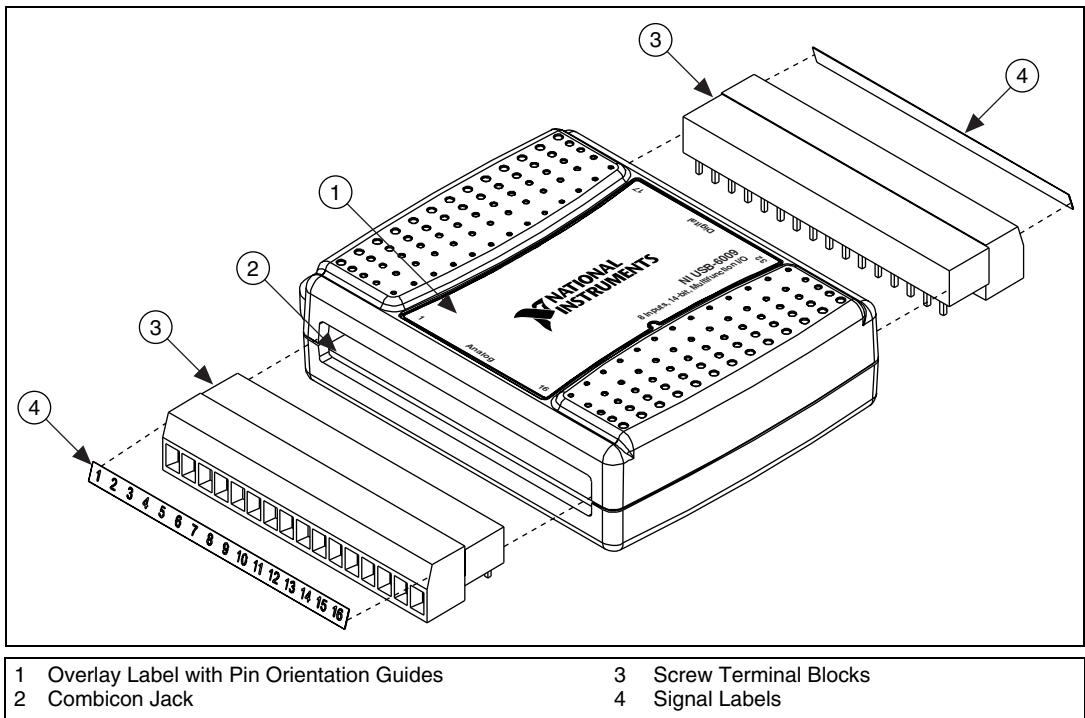

Figure 5. Signal Label Application Diagram
2. Refer to Table 1 and Figure 5 for label orientation and affix the provided signal labels to the screw terminal blocks. Until the signal labels are applied, you can insert the screw terminal blocks into either of the combicon jacks. Refer to Figure 5 for more information about signal label orientation.